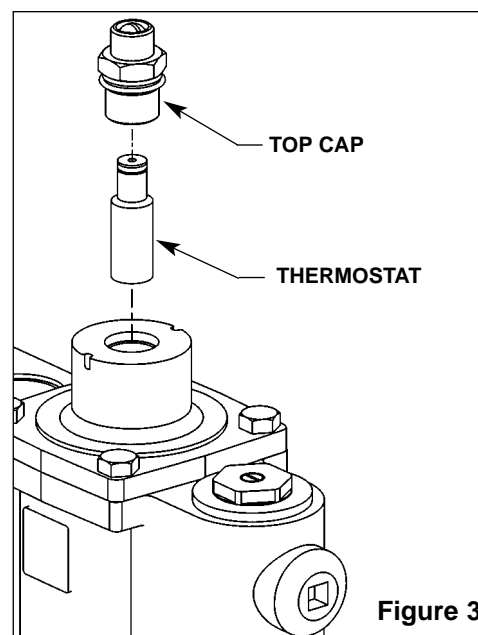

Figure 3
1. Remove the valve's top cap and pull out the thermostat and then the push rod (see Figure 3). You may use a needlenose pliers to remove the thermostat from the valve body if desired.
1. Remove the top cap and pull out the push rod and thermostat (see Figure 3 on page 5).